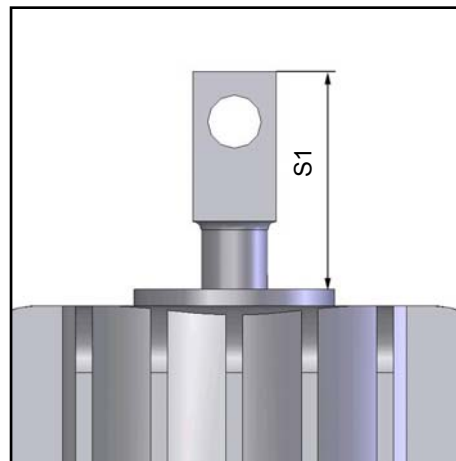

Fig. 4:
- Turn Nut (2.14) **clockwise** until the piston rod of the thruster (Fig. 4) has reached the necessary value for S1 (table 1).
- Turn Nut (2.14) **counterclockwise** until the piston rod of the thruster (Fig. 4) has reached the necessary value for S1 (table 1).